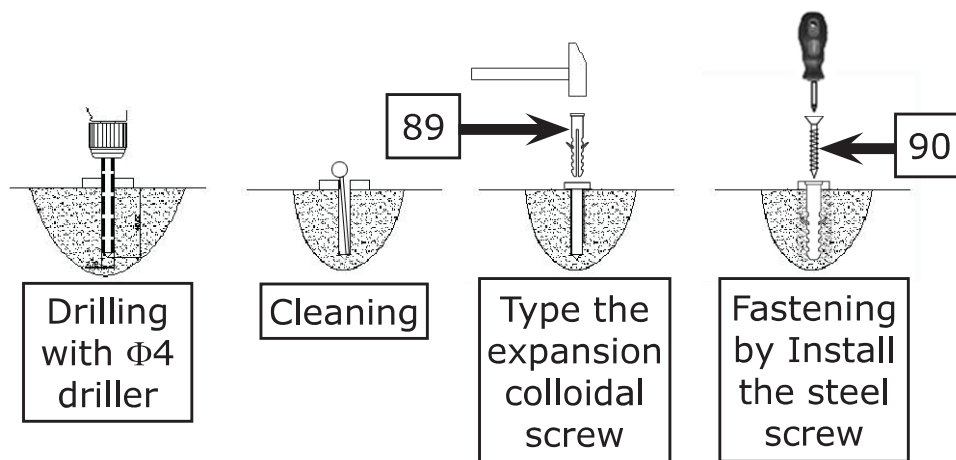

Fig. 28
2. Install the oil hose cover (**See Fig. 28**).